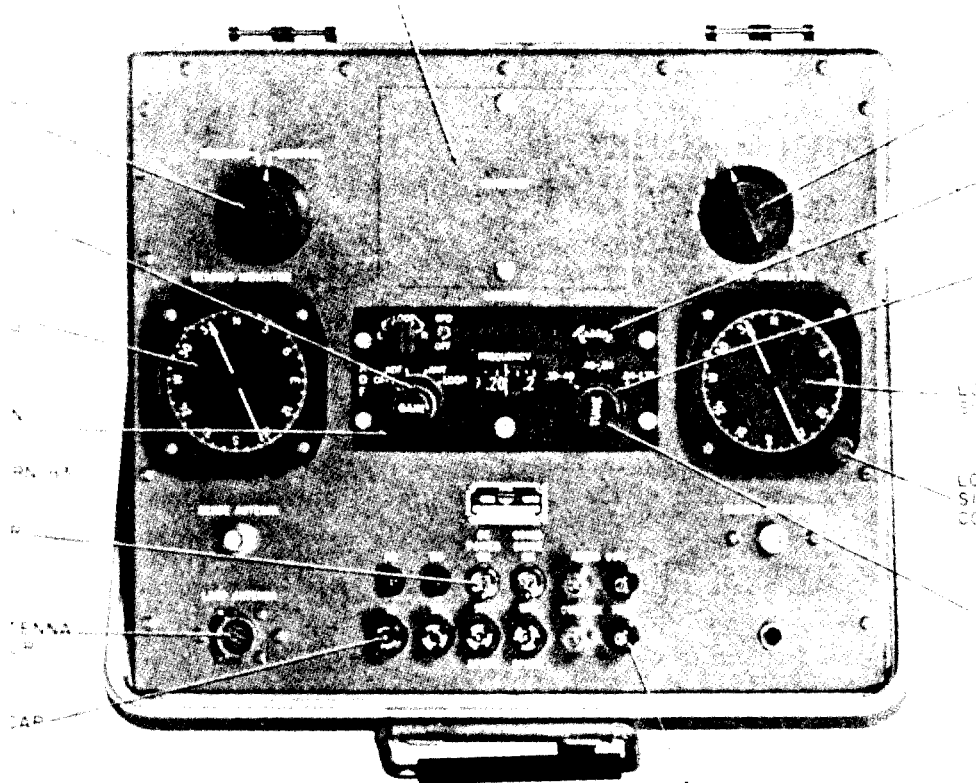

Figure 3. Direction Finder Test Set SN/ARM-93, front panel.
3. Description. Direction Finder Set Test Set AN/ARM-93 contains Direction Finder Control C-6899/ARN-83, Static Power Inverter CV-2128/ARN-83 (fig 3), and all interconnections required to test Radio Receiving Set AN/ARN-83. Additional data is listed in **a** through **c** below.
(b) Turn RECEIVER-CONTROL switch on the unit under test (see fig. 3) to CONTROL.